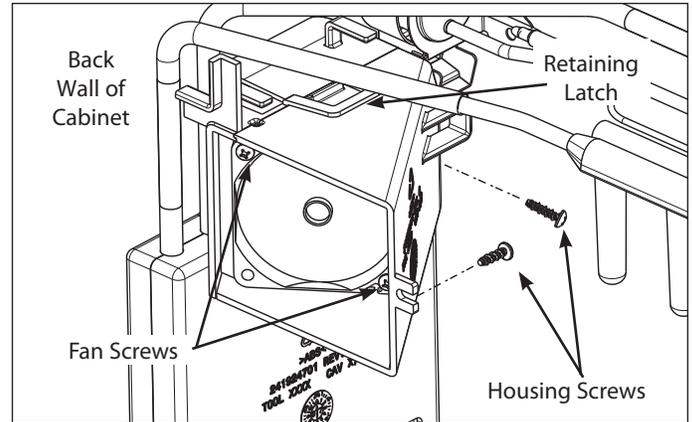

Figure 6-89.
3. Extract the two screws securing the fan and thermostat housing to the rear and left sidewalls. Release retaining latch and slide the housing forward and remove from area above ice maker evaporator. Use caution not to strain fan electrical leads. (See Figure 6-89)